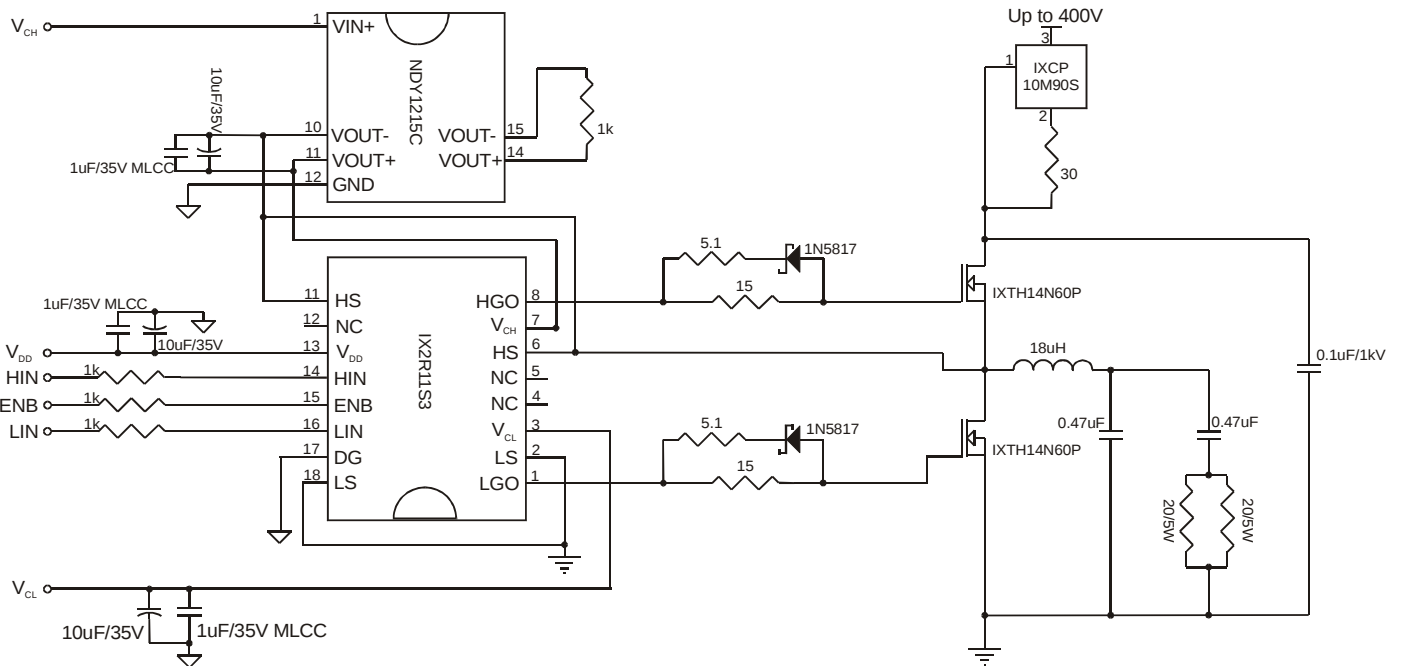

Figure 10. Test circuit for high frequency, 750kHz, operation.
* Operational voltage rating of 500V determined in a typical half-bridge circuit configuration (refer to Figure 10 and Figure 11).
Tested in typical circuit configuration (refer to Figures 10 & 11)